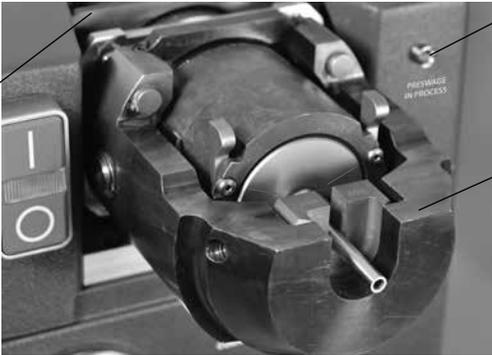

Fig. 14 Preswaging the Tubing
**Note:** The green Preswage in Process light will illuminate when the tube bottoming sensor activates the cycle, however this alone does not indicate full tube bottoming. Follow the instructions in step 10 above to ensure proper tube bottoming, Fig 14.